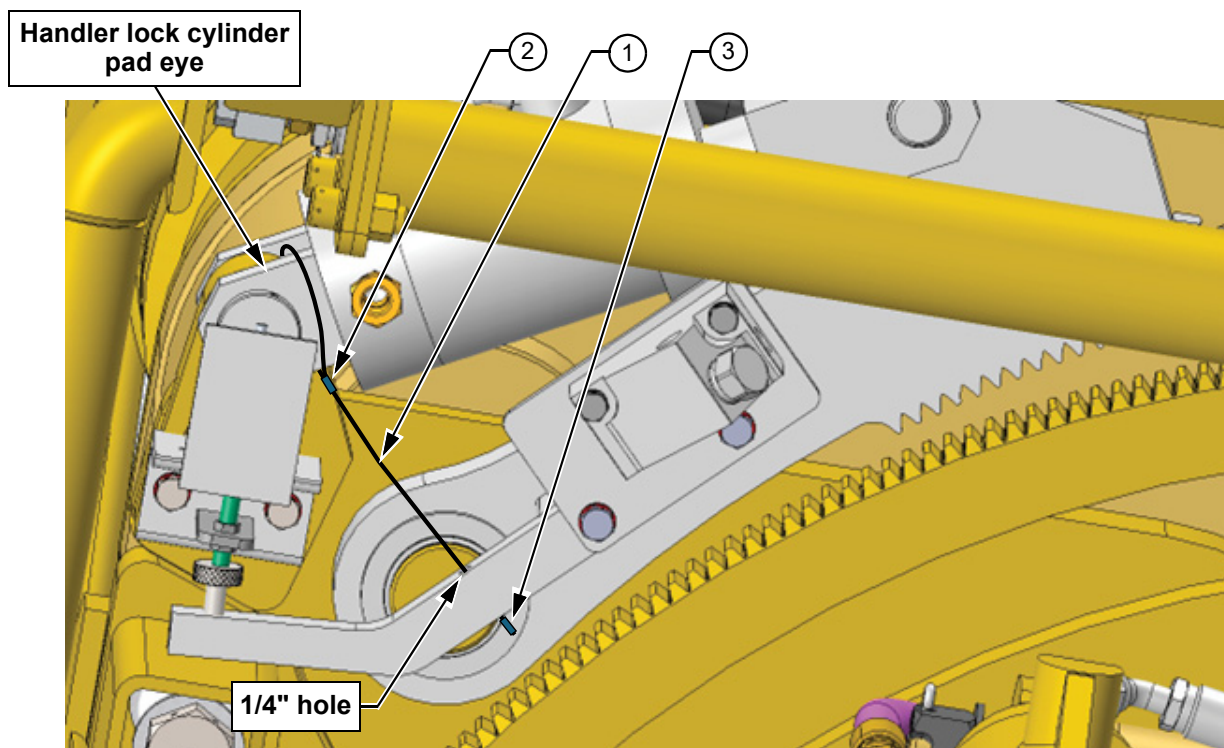

Figure 2: Handler lock dog target arm safety securement
3. Cut excess wire from **Item 1** (1/8" wire rope) and crimp **Item 3** (1/8" Stop Ferrule) to the end of the wire as shown in Figure 2.